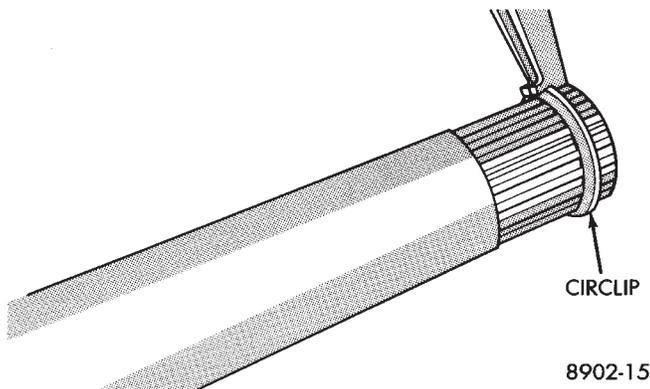

Fig. 4 Remove Circlip
(4) If bent or damaged, carefully pry wear sleeve from C/V joint machined ledge.
(5) Remove circlip from shaft groove and discard (Fig. 4). A replacement boot package will include this circlip.
(6) Unless the shaft is damaged and needs replacing, **do not remove** the heavy spacer ring from the shaft, G.K.N. only (Fig. 4).